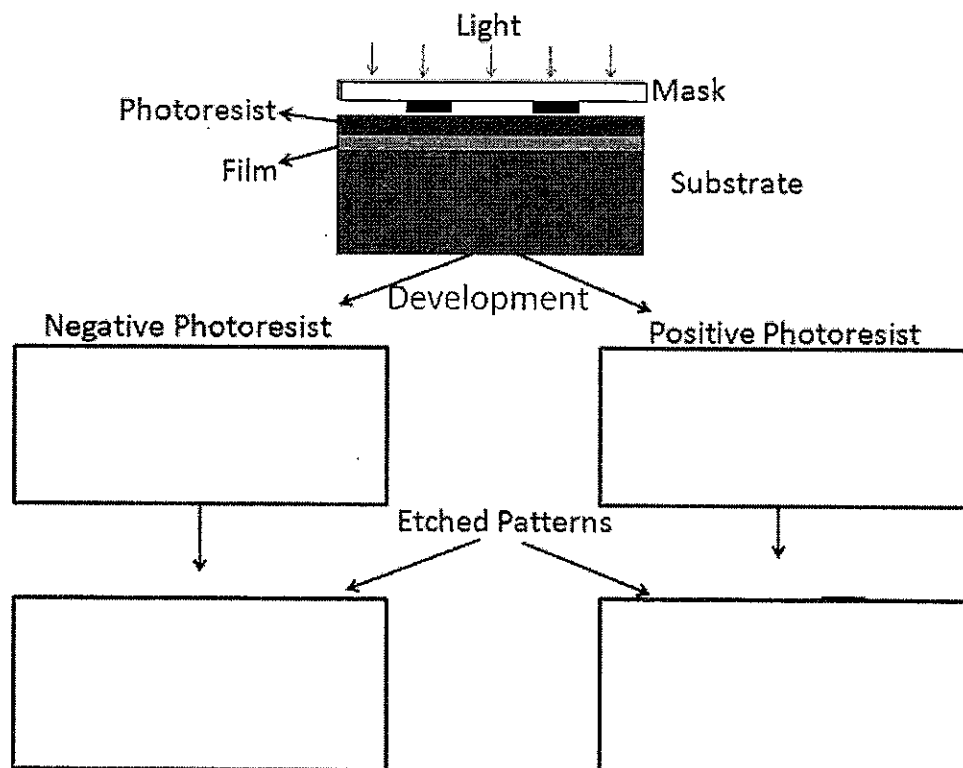

Figure Q2(c): Optical patterning of thin film using positive and negative photoresist.
- (c) Figure Q2(c) illustrates an exposure process through optical mask on a substrate deposited with a thin film, which is spin coated with photoresist on top of the thin film. For the **positive** and **negative** photoresist, sketch the subsequent structures after the photoresist development and film etching process, respectively. [4 marks]